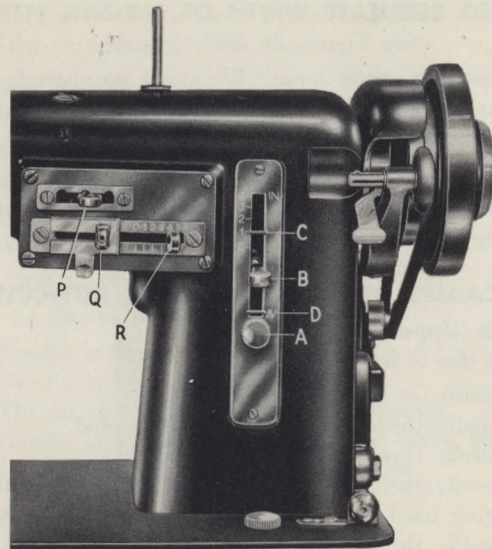

Fig. 20
(See Figure 20 for reference.)
- a. Bring lever "B" (Fig. 20) down as far as possible.